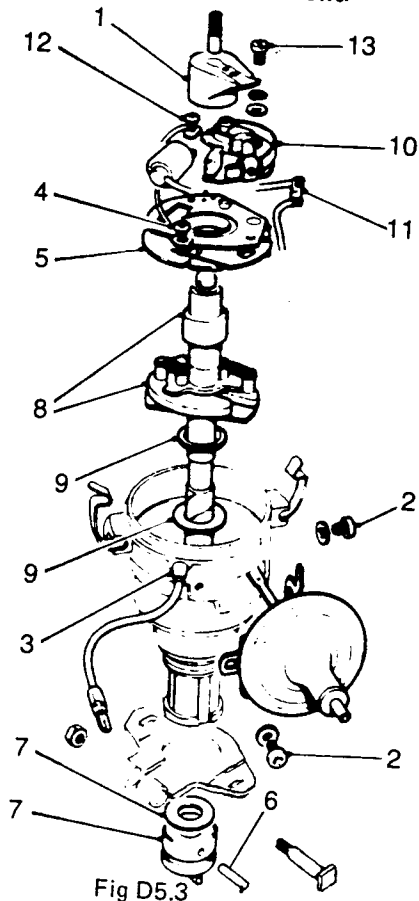

Fig D5.3
(1) Refer to Fig D5.3. Replace the fixed contact assembly and secure with the screw (13), spring and plain washers.
(2) Refit the capacitor and earth lead tag. Secure with the fixing screw (12).
(3) Push the moving contact spring (10) towards the centre and clip in the low tension lead (11). Do not take up the slack at this stage.
(4) Refit the nylon spacer and steel washer (9) to the spindle.
(5) Replace the centre spindle complete with the automatic advance weights and springs (8). During reassembly grease the pivots of the weights and springs and the spindle bearing area with Rocol MP (Molypad).
(6) Replace the drive dog and thrust washer (7) with the raised pips on the washer facing the dog. If a new drive spindle is fitted, tap the drive end of the distributor dog to flatten the 'pips' on the dog washer and ensure the correct amount of end float.